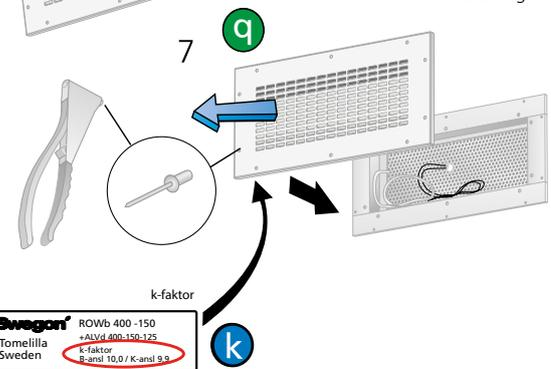

Figure 2. ROW + ALV.
- Installation with the ALV, see page 2, Figure 2.
Commissioning should be carried out with the wall terminal face mounted. Pull the measurement hose and damper adjustment cords out of the wall terminal through the perforation. Connect a manometer to the measuring tube. The desired commissioning pressure can be calculated using the rated coefficient of performance (K-factor) of the wall terminal. Set the damper to the correct blade position, tie a commissioning knot in the damper cords to indicate the damper position. Then lock the cords against the locking screw in the air distribution baffle. See Figure 2.
The wall terminal can be cleaned, if necessary, using lukewarm water with dishwashing detergent added or by vacuum cleaning using a brush nozzle. The duct system is accessed for cleaning by boring out the steel blind rivets and then withdrawing the wall terminal out of its spring retainers. If an ALV commissioning box is used, withdraw the acoustic baffle, move the distribution plate to the side, turn and withdraw the damper from its holder from the inlet. See Figure 2.